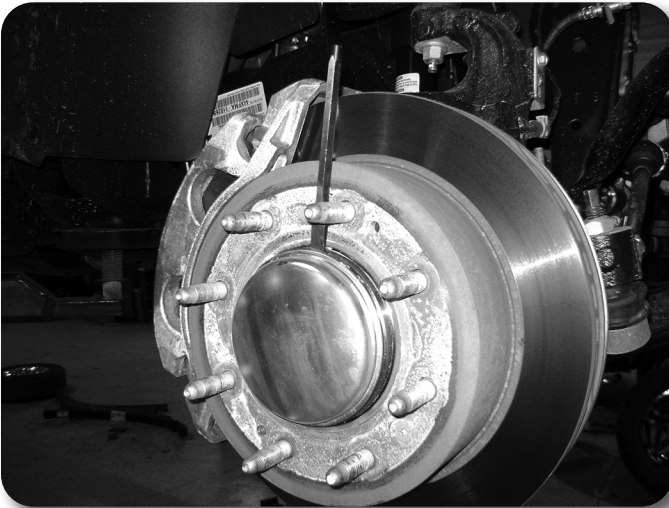

Figure 8
16. Carefully remove the hub dust cover. Save cover **Figure 8**. Tip: Carefully work the cover loose with a small chisel.